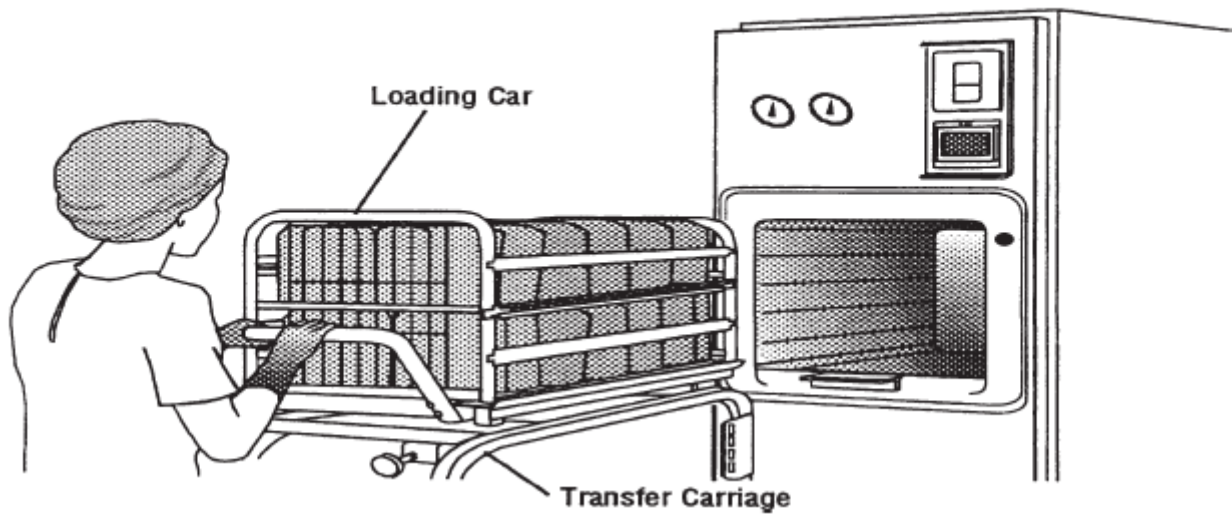

Figure 4-2. Align Loading Car with Chamber Opening
3. Align front end of transfer carriage with end of sterilizer (see Figure 4-2).